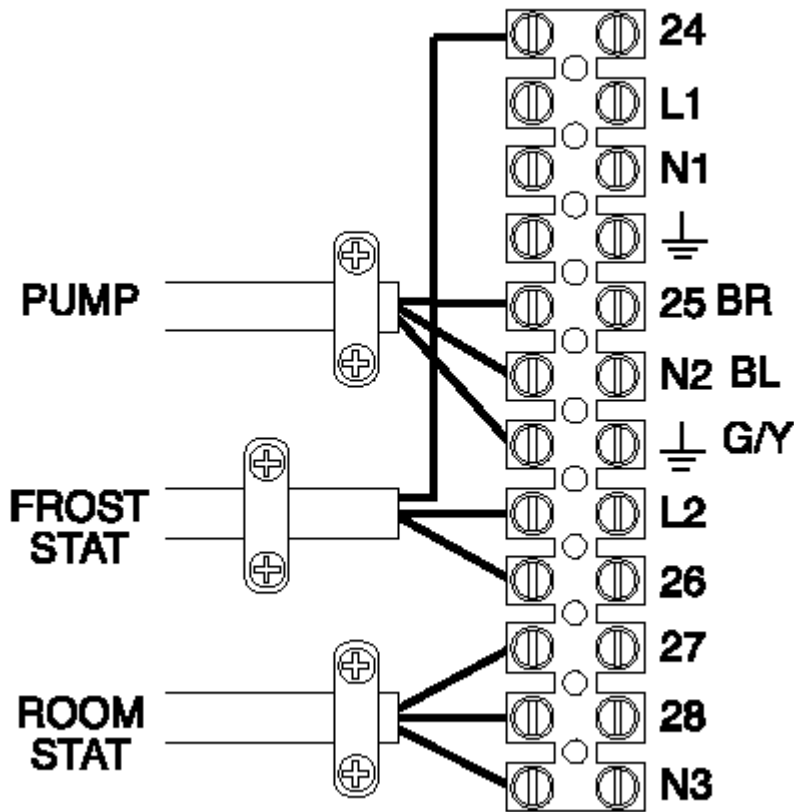

Fig. 10.4 Terminal block
2. Connect any external control cable to the terminal block as indicated and described below – See Fig 10.4 – and route via unused grommets on lower LH side of unit.